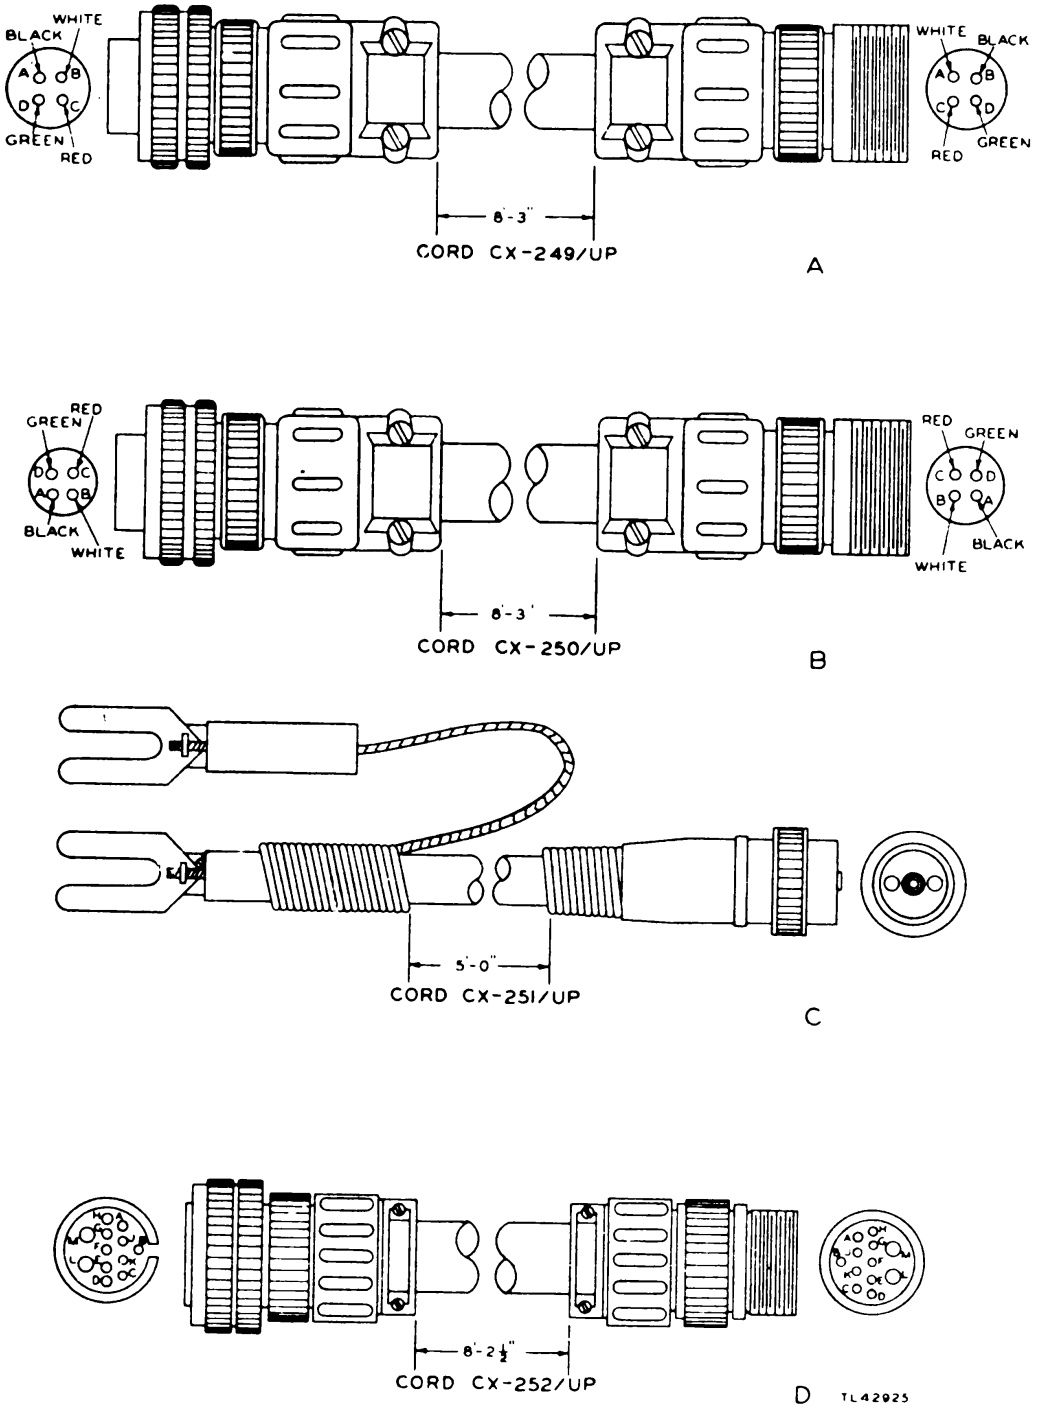

Figure 15. Details of Cords CX-249/UP, CX-250/UP, CX-251/UP, and CX-252/UP.
- (1) Range Unit BC-1062 to Range Indicator BC-1088.
- (2) Field Rectifier RA-71-B to Junction Box JB-71.
i. Cord CX-249/UP (fig. 15-A). This cord is an 8-foot 3-inch length of four-conductor cable, type M.C.S.-4 as made by General Electric Company, or the equivalent. It is terminated at one end with a plug Amphenol AN-3106-18-4P type 102 and at the other end with a receptacle Amphenol 97-5103-18-4S type 102. This cord is used to connect the following components:
- (2) Plan Position Indicator BC-1092 to Plan Position Unit BC-1058.
j. Cord CX-250/UP (fig. 15-B). This cord is an 8-foot 3-inch length of four-conductor cable, type M.C.S.-4 as made by General Electric Company, or the equivalent. It is terminated at one end with a plug Amphenol AN-3106-18-4S type 102 and at the other end with a receptacle Amphenol 97-5103-18-4P type 102. Two of these cords are provided to connect the following components:
- (2) Plan Position Unit BC-1058 to Plan Position Indicator BC-1092.
k. Cord CX-251/UP (fig. 15-C). This cord is a 5-foot length of No. 20 AWG, 26/34T, two-conductor shielded cable as made by the General Cable Company, or the equivalent. It is terminated at one end with a connector No. 80M and at the other end with two spade terminals colored red and black. This cord is used with the test oscilloscope.
l. Cord CX-252/UP (fig. 15-D). This cord is an 8-foot 2½-inch length of General Electric type CW-1273, 14-conductor cable, or the equivalent. It is terminated at one end with a plug Amphenol AN-3106-28-8P and at the other end with receptacle Amphenol 97-5103-28-8S. Only 12 of the conductors are wired to